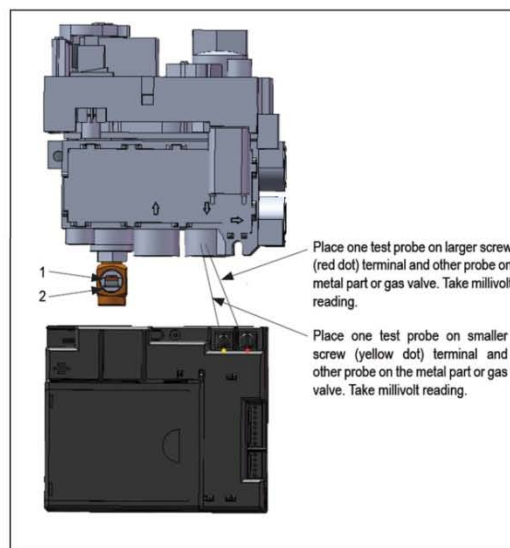
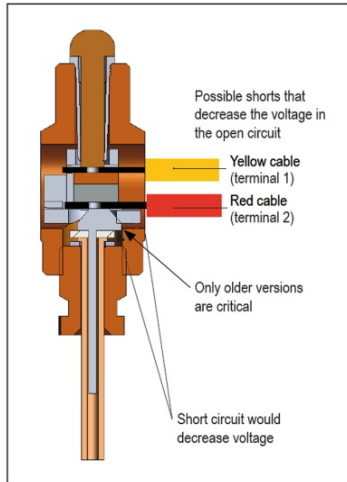

Figure 1
Figure 2
- Check that the pilot burner is generating enough voltage (see figure 1). Measure the voltage between the larger screw (with red dot) on the receiver unit and any metal part of the gas valve. At the point the thermocouple takes over and the motor turns, and opens, the voltage reading should be more than 12 mV for Oxypilot and 20 mV for other pilot burners. This is the voltage being created by the pilot burner in an open circuit (It is independent of the resistance in the circuit) and only a short at the interrupter (see figure 2) could cause failure.
- Less than 5.5 mV – the increased resistance is in the interrupter block terminal 2 (see figure 2), the receiver unit, or the thermocouple.